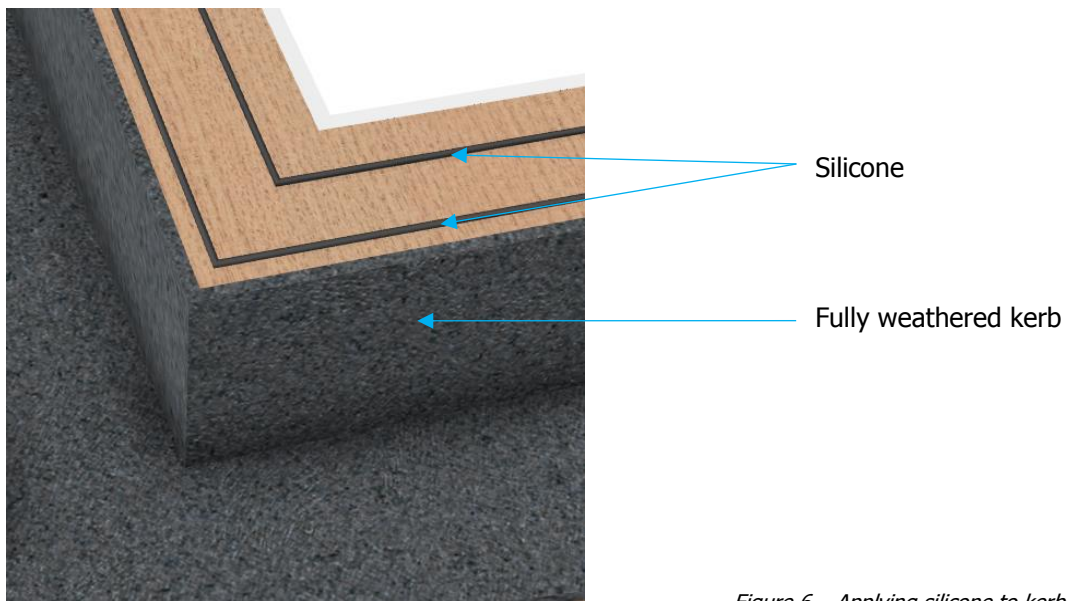

Figure 6 – Applying silicone to kerb
14. Drill pilot holes in kerb using holes in drip leg on base framework. Use a suitable size drill to suit fixings supplied. Secure base frame to kerb using supplied fixings and packers. The packers must fill the gap between kerb and rooflight base frame for each woodscrew (*Figure 6*) to prevent distortion of framework.